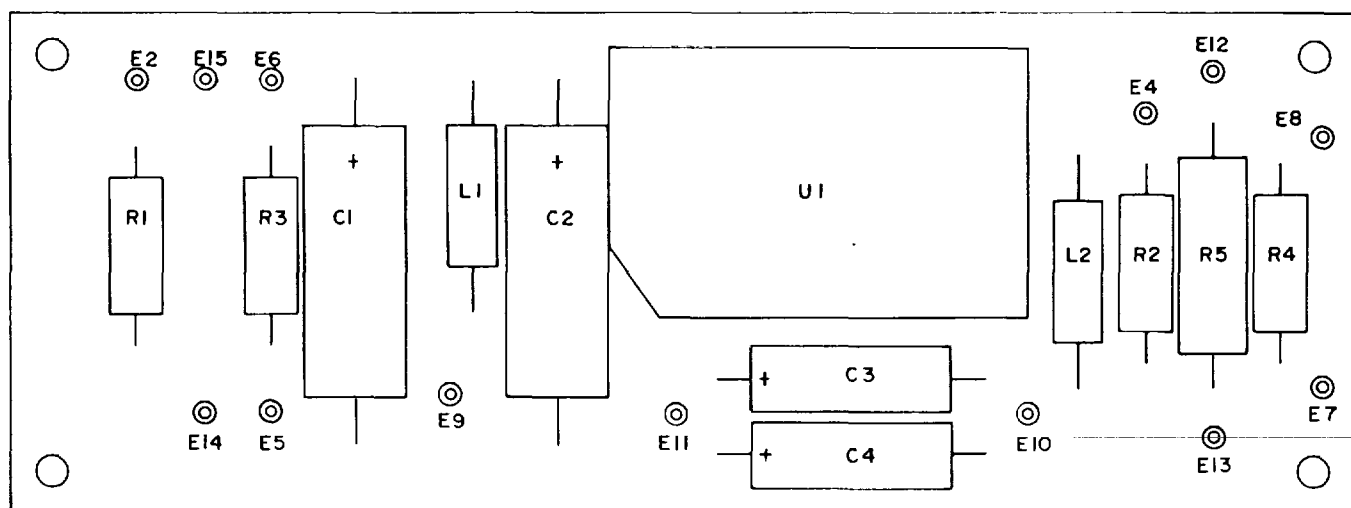

Figure 7-9. Meter Card Circuit Card Assembly, 1A5A6 Parts Location Diagram
i. Meter Card Circuit Card Assembly (1A5A6) Disassembly. To remove the modulation control circuit card assembly, perform the following procedures. Further disassembly should be limited to removal of parts for repair or replacement. Refer to figure 7-9 for location of components to be replaced.
- (1) Disconnect the solder connections holding meter circuit card 1A5A6 in place.
- (2) Remove four screws and washers holding the meter circuit card assembly in place.
- (3) Remove the meter circuit card assembly from the chassis.